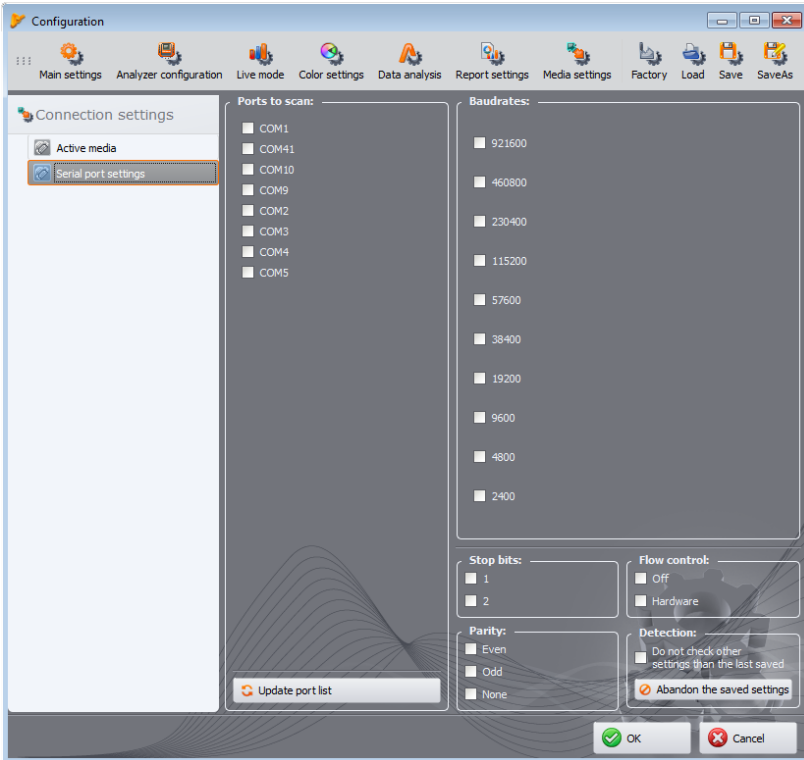

Fig. 87. Program configuration – Serial port settings.
- **PQM-701Zr** **SERIAL PORT SETTINGS** (Fig. 87) – allows user to select settings for PC serial port that will be applied for connecting with PQM-701Zr analyzer. The following options are available: